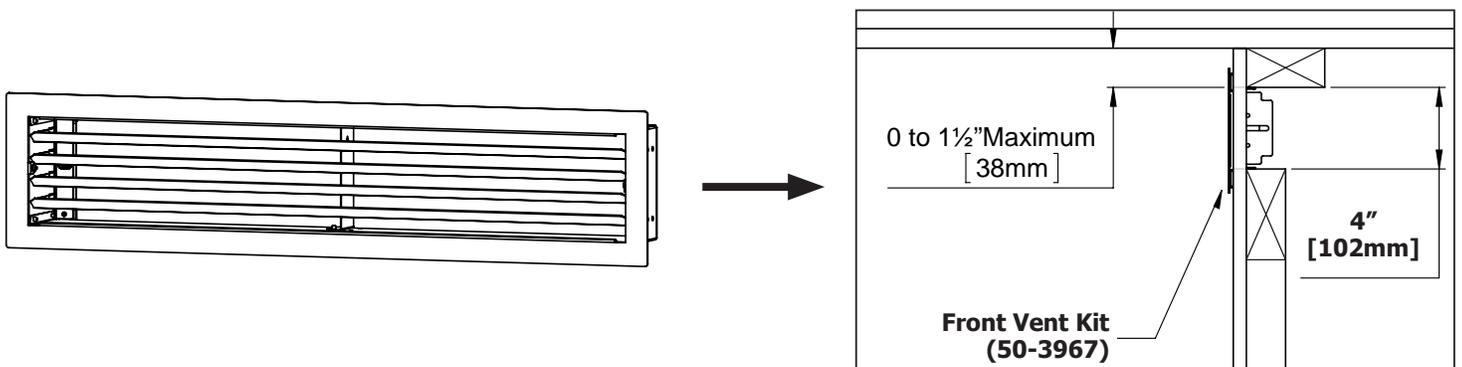

Figure 2: Front Vent Kit
**Option 2: Front Vent Kit (50-3967)** - If desired, an optional Front Vent Kit may be used to accentuate the front discharge (figure 2). This installation will also cover the edge of the finishing material at the cutout.